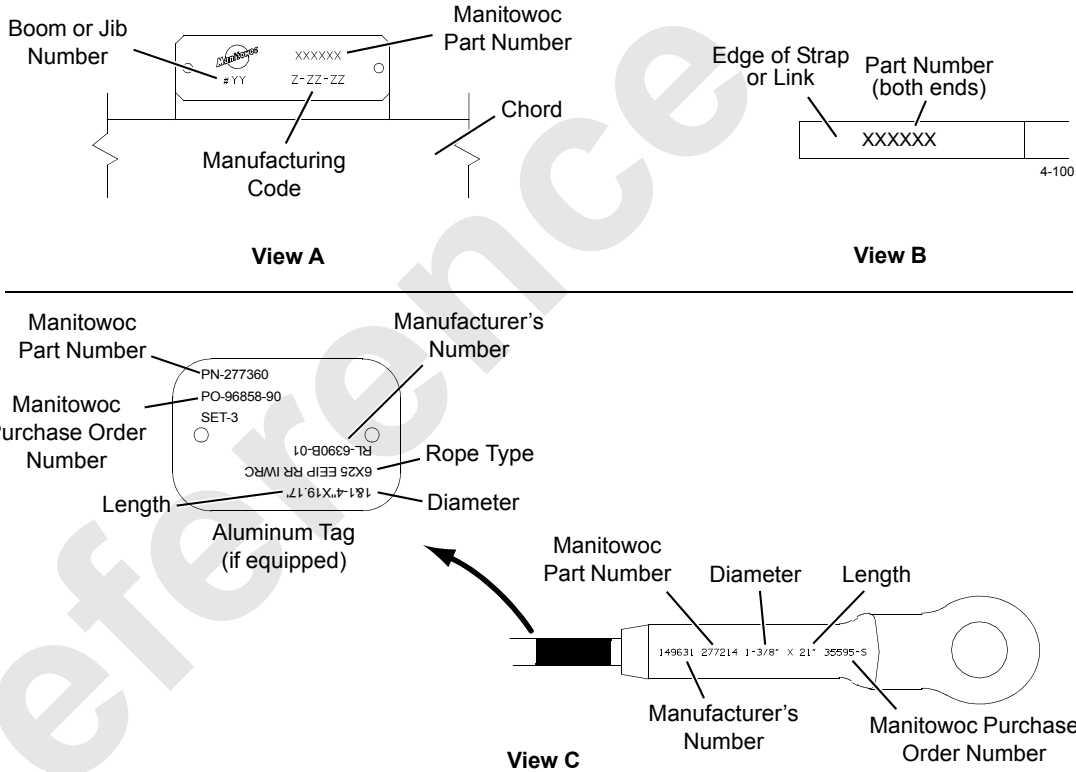

FIGURE 4-5
Jib sections are marked for proper identification as shown in Figure 4-5, View A (all four chords of each boom or jib section).
Straps and connecting links are marked for proper identification as shown in Figure 4-5, View B.
Pendants (when used) are marked for proper identification as shown in Figure 4-5, View C.
2. Reinstall proper number of removable lacings in each insert with bolts and stop nuts as shown in Figure 4-5.
2. Check that removable diagonal lacings are securely fastened to each jib insert (see Removable Lacings – #44 Jib topic and Figure 4-5).